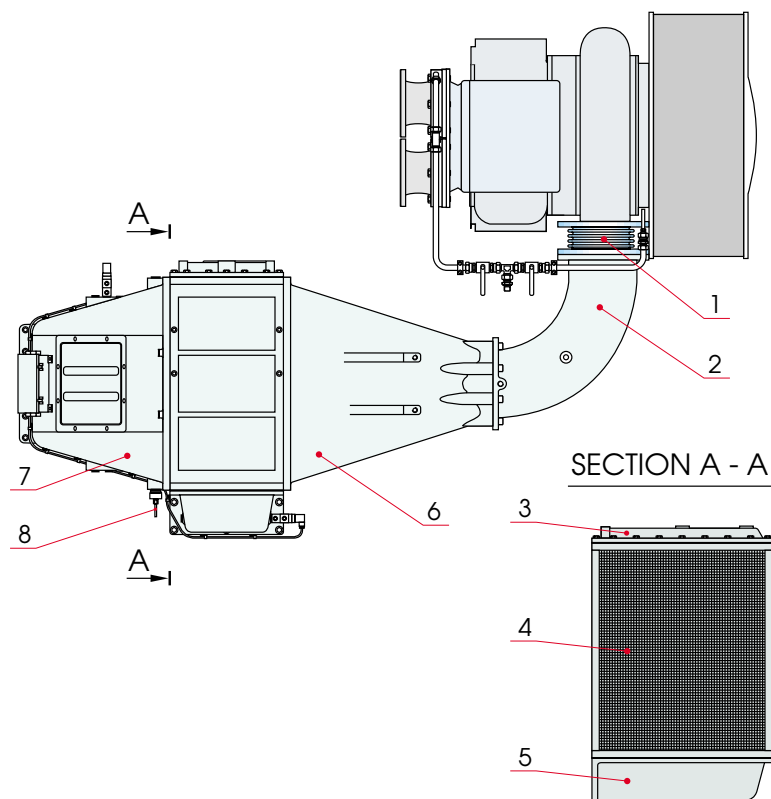

Fig 15-1
- 2 Open screws** and remove bellows (1) between turbocharger(s) and air cooler housing, see Fig 15-1.